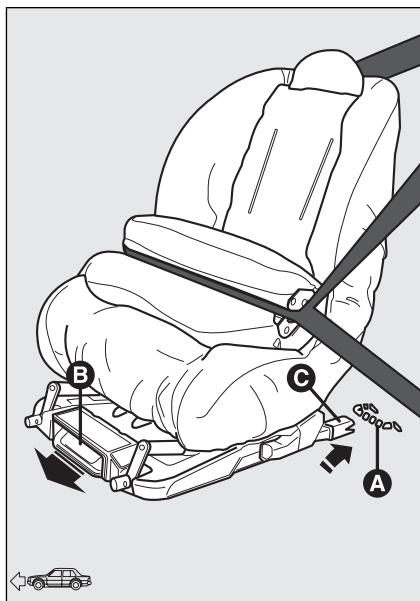

fig. 17
- check whether the release lever **B-fig. 17** is at rest position (inward);